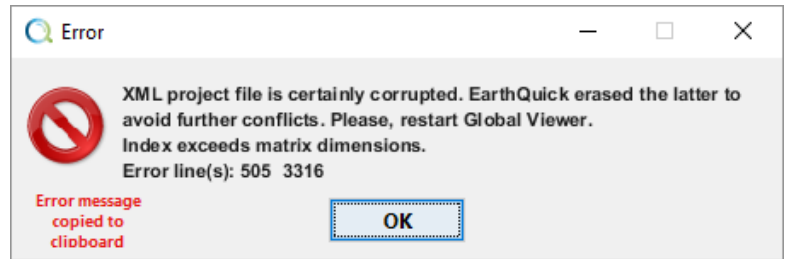

Figure 22: Typical error when deleting files in back office. Error lines could vary.
- If DB is handled in back office, meaning away from EarthQuick, error message such the one illustrated by Figure 22 could pop up when launching GV or WB.